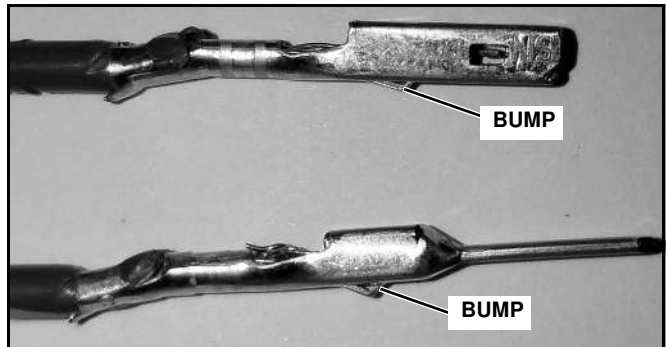
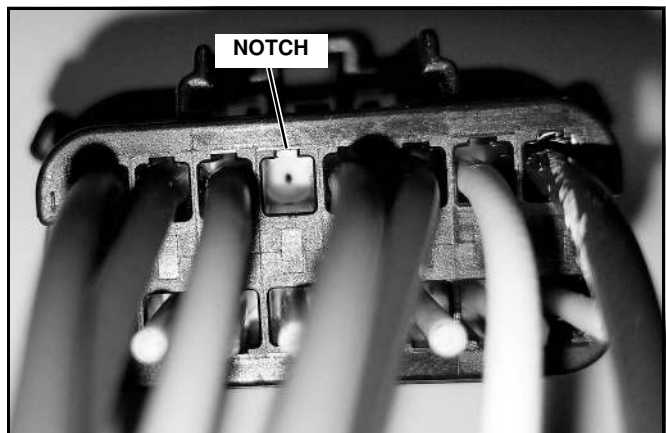

Figure 19
Figure 20
- C. Insert the two blue with white stripe wires into one headlight adapter. One wire has a male terminal and the other has a female terminal. Push them into back of the 16 pin connector; they can only enter one way. So make sure that bump in the terminals line up with the notch in the pin cavity. Push in the secondary lock when complete. (See Figure 19 and Figure 20.)